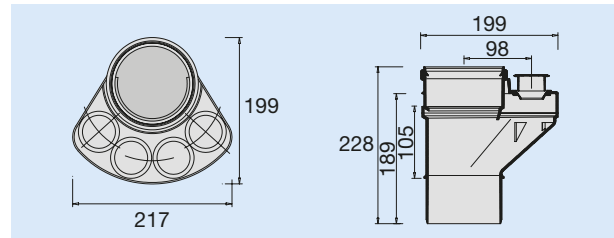

Fig. 79 419.4.15 Universal soil manifold
**119P Universal Soil Manifold** (Fig. 79).